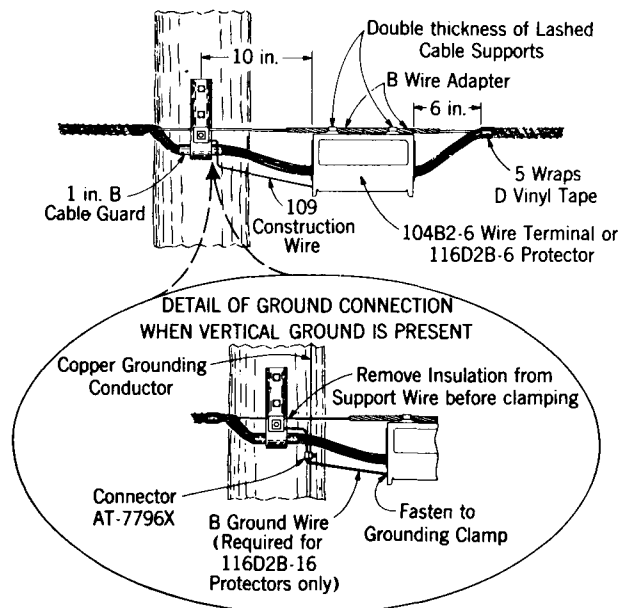

Fig. 8 - At Multiple Line Wire Intermediate Pole
3.02 A 104B2-6 Wire Terminal or 116D2B-6 Protector can be located at a multiple line wire intermediate pole using two B Wire Adapters and two lashed cable supports as shown in Fig. 8 and described in 3.03.